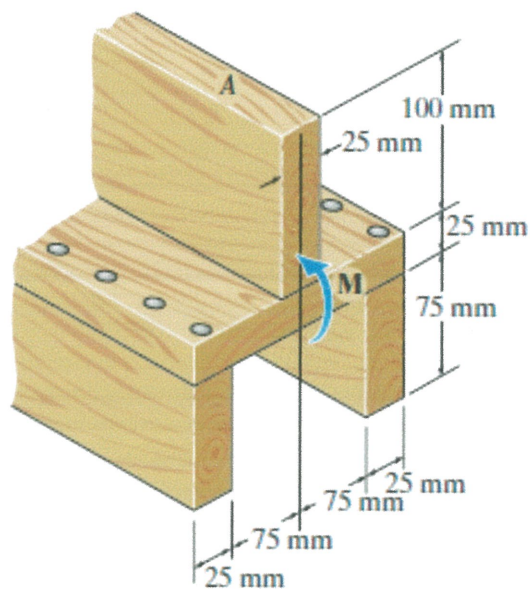

Figure Q3
- Q3.** The beam shown in **Figure Q3** is made of wood. If it is subjected to an internal moment of $M = 3 \text{ kN/m}$,